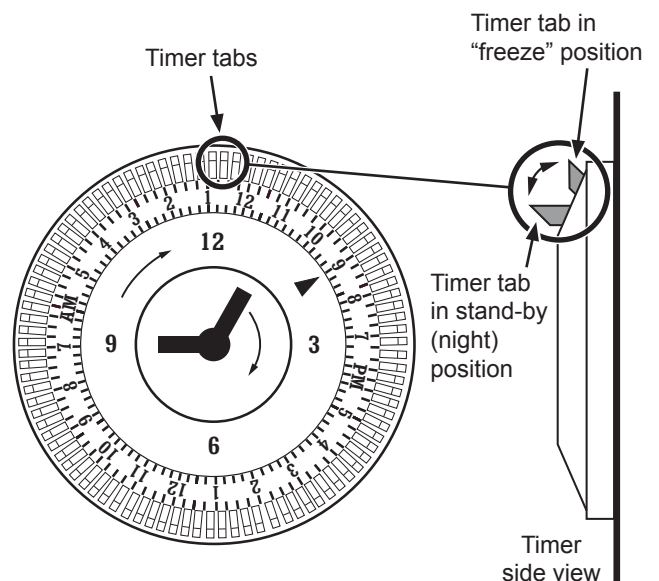

Figure 2
- 1 With the main power switch off, flip the timer tabs next to the time marks on the timer to either the standby or freeze position (Figure 2). The unit will operate in the mode selected during the corresponding time period.
- 2 Check to make sure the clock is set to the current time, then turn ON (I) the main power switch.